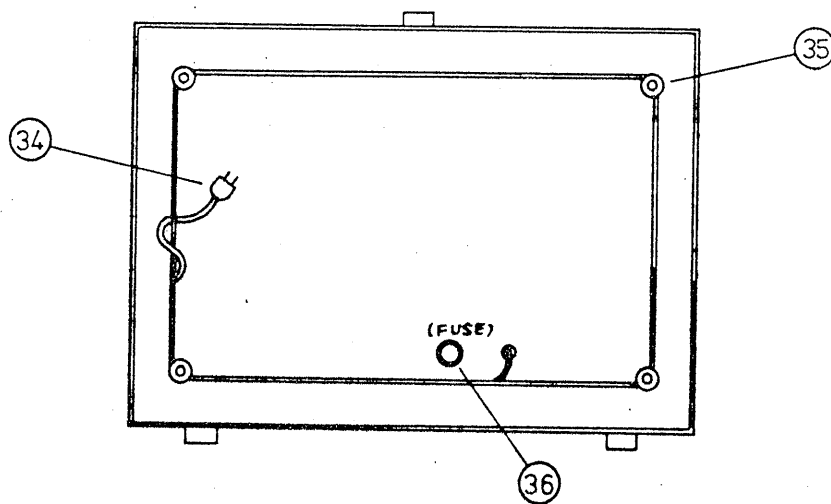

Fig. 2
②9	<p></p> <p>POSITION</p>	<p>Horizontal positioning knob. The displayed waveform moves rightward as this knob is turned clockwise, and vice versa.</p>
3.2 Explanation of Rear Panel (See Fig. 2)